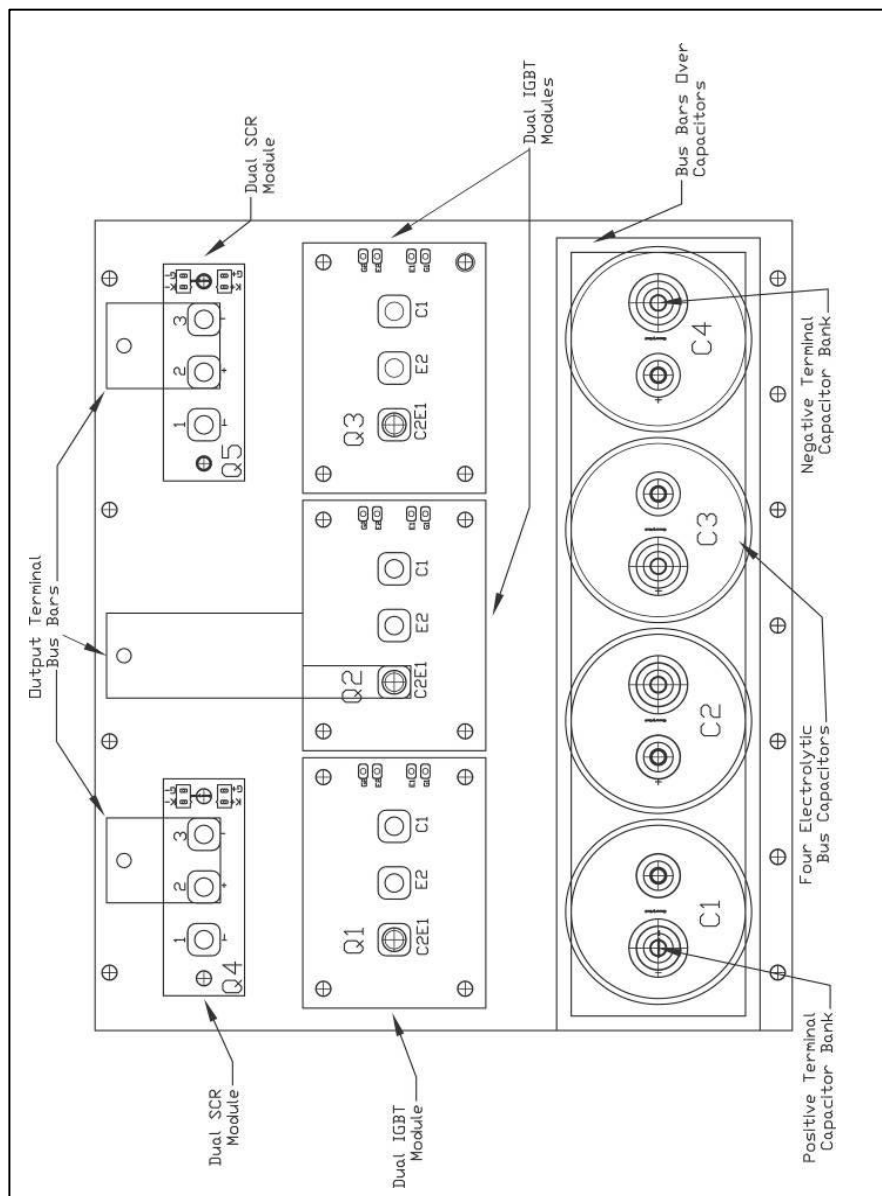

Figure 5.2: (600V) 39, 78 Amp & (480V) 45, 90, 100 Amp Power Component Layout
- Measure resistance of power semiconductors using a multi-meter set on the diode check setting, see **Figure 5.2**. Look for opens, ∞ , or dead short readings. With the red lead of your meter connected to the far right negative terminal of the capacitor bank, measure with the black lead of the meter to each of the three output terminals (bus bars), the reading should be approximately 0.35Ω . Reverse the meter leads and repeat measuring to each terminal. This time a low reading will be present, which will continue to increase; this is an indication of a capacitor charging. Next, connect the black meter lead to the “positive capacitor terminal” and again measure to each of the output terminals with the other lead; the reading should be approximately 0.35Ω . Reverse the meter leads and repeat measuring to each terminal. Again, it will be a low reading, which will continue to increase. If the readings are as described, in all likelihood the power semiconductors are good. If any readings are opens or dead shorts, it will be an indication that something is bad in the power section. Do not reapply power if you are not sure the IGBTs are good.